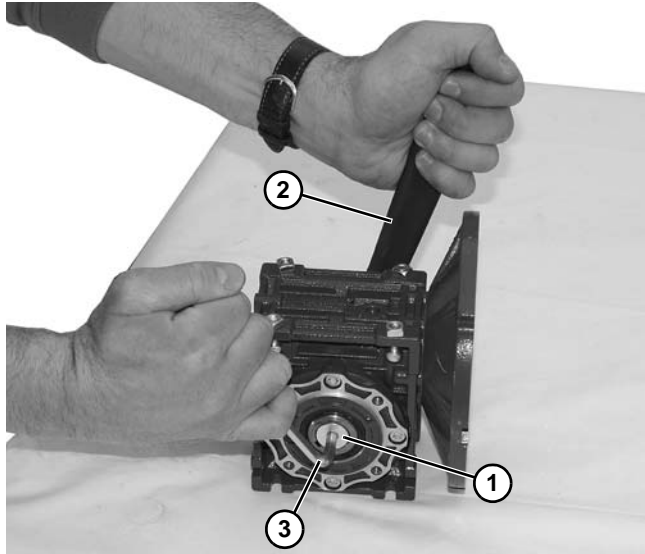

Figure 31
1. Loosen driveshaft bolt (Figure 31, item 1).
2. Hold the driveshaft with a wrench (Figure 31, item 2) as shown to keep shaft from turning, while removing screw with hex wrench (Figure 31, item 3).
7. Hold the driveshaft with a wrench (Figure 31, item 2) as shown to keep shaft from turning, while installing screw with hex wrench (Figure 31, item 3). Tighten screw to 100 in-lb (11.5 Nm) for 42CZ or 350 in-lb (39.5 Nm) for 56C, 63B5 and 71B5.